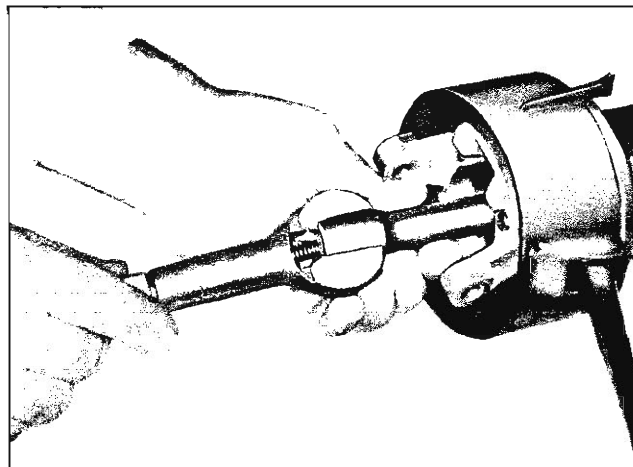

Fig. 34—Steering Shaft Installation
6. Install the steering shaft assembly into the upper end of the mast jacket (fig. 34).